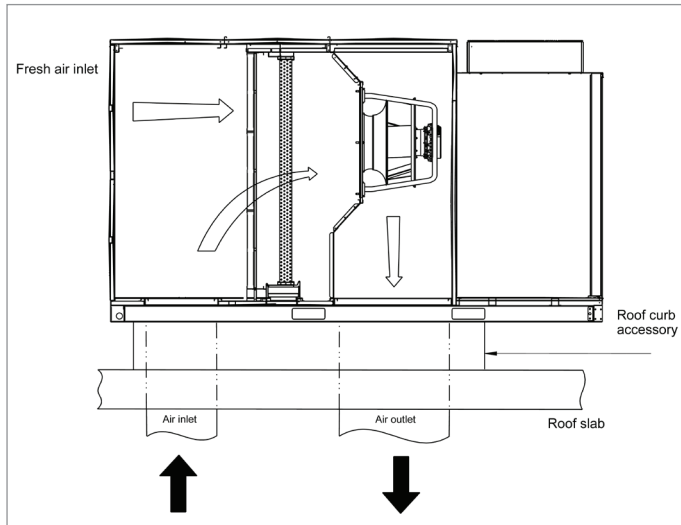

Fig. 1 – Roof curb accessory – standard vertical supply and return
- The standard unit leaves the factory with the air supply and return in the lower section (see Fig. 1) and the corresponding holes on the roof must be made.